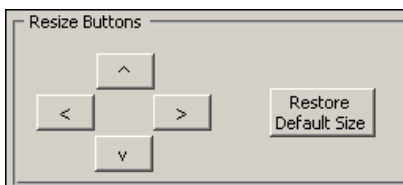

Figure 2-17. Resize Buttons
- **Resize Fields**—To resize a field, click the field and use the resize buttons, shown in Figure 2-17. You can return a field to its original size by clicking **Restore Default Size**.